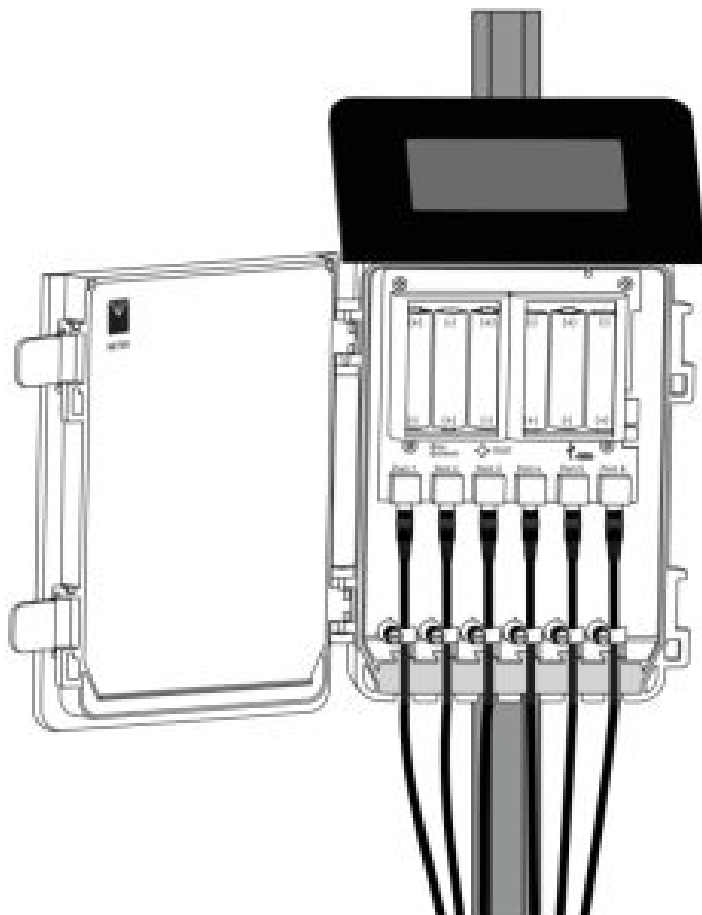

Figure 4: Logger connection
1. Plug the stereo plug connector into one of the sensor ports on the logger (**Figure 4**).